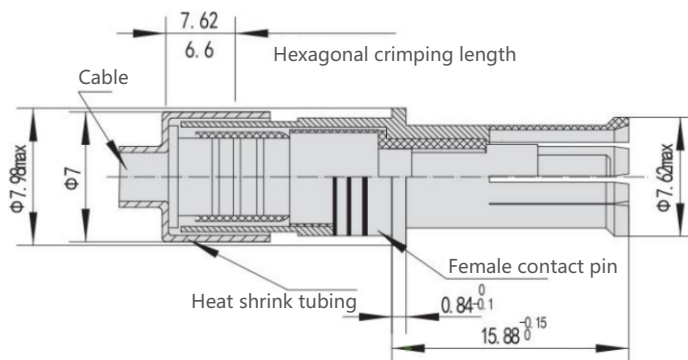

Figure 3.13
- ⑧ As shown in Figure 3.13, slide the outer socket contact and front insulator subassembly onto the internal assembly until it is pressed against. A small gap will appear on the sleeve.